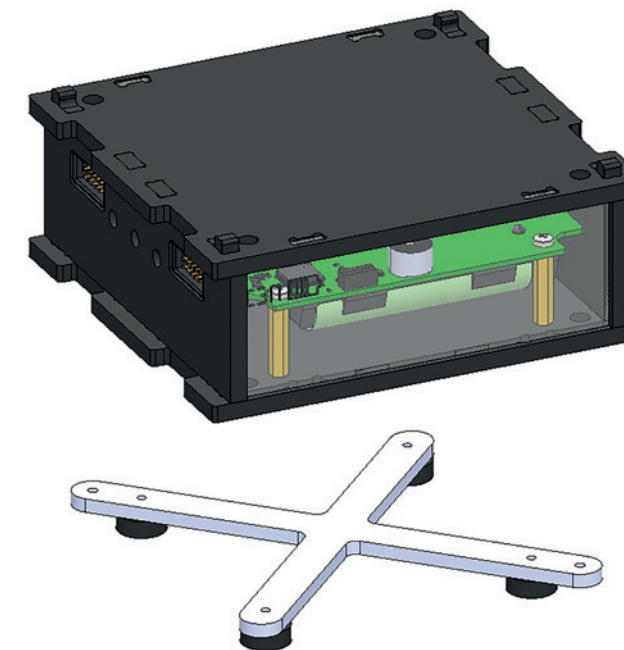

Fig. 105: Mounting the base plate
1) Take the bottom base plate preassembled with instrument support feet (4 pcs.) and M3x5 cylindrical-head screws (4 pcs.) and place the first module on top of it so that four threaded holes in the base plate would match four holes in the module. It is recommended that the PSS module be mounted first (Fig. 105):